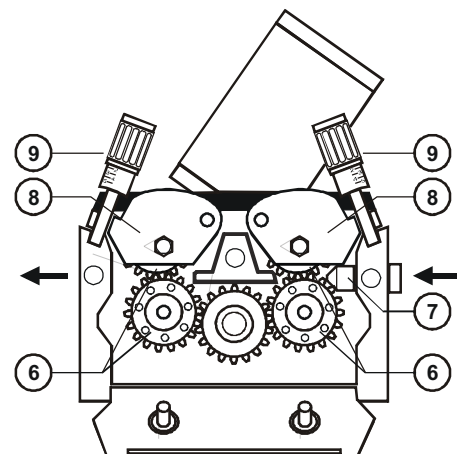

Fig.13
- Open roll pressure levers of wire feed motor (8-Fig 13).
- Manually advance the wire a few centimetres inlet wire guide (7-Fig 13), feeding rolls (6-Fig. 13) and torch (Fig. 11). If necessary, eliminate sharps of the wire end with a lime to avoid wire jam or damaging of torch sleeve.
5.7 – Close roll pressure levers (8-Fig. 13) of wire feed motor and adjust pressure by means of both pressure regulator screws (9-Fig. 13) :